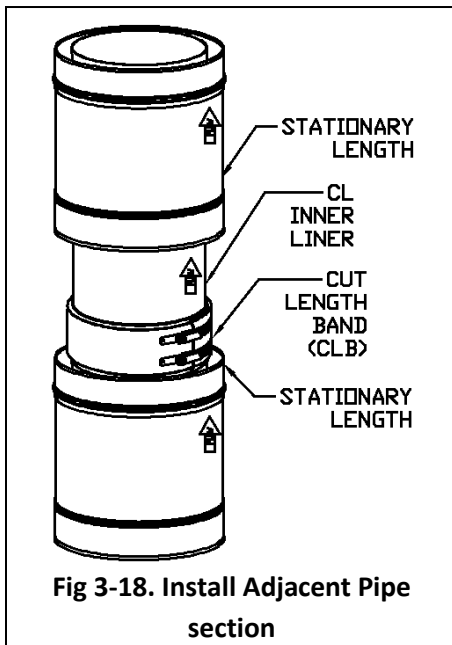

Fig 3-18. Install Adjacent Pipe section
10. Install next adjoining pipe section. Refer to CK Joint Assembly Section. (See Fig 3-18).